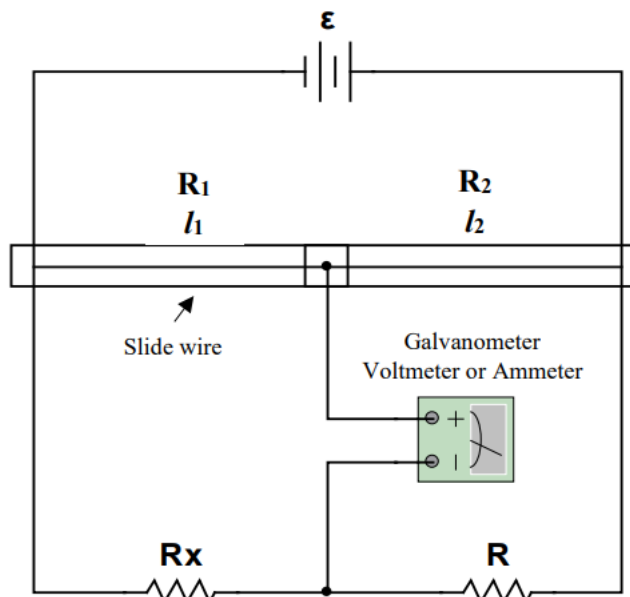

Figure 2: Set-up for DC Wheatstone bridge measurements.
1. Connect the circuit as shown in Figure 2 using a slide wire.